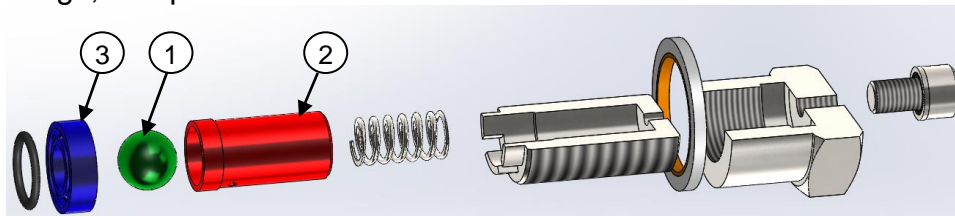

Figure 7 – Delivery Valve Assemblies
7. Position the delivery valve seats (blue – figure 9.1) with o-rings installed into the cylinder block, assemble the remaining delivery valve sub-assembly components as in figure 7 and screw them into the cylinder block. Torque to 65-70Nm.